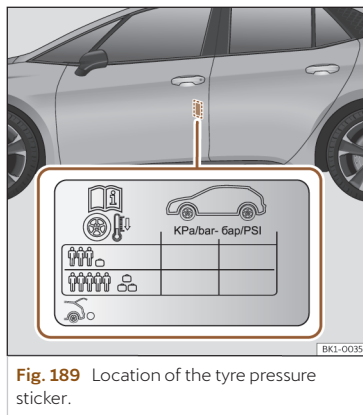

Fig. 189 Location of the tyre pressure sticker.
- Adjust tyre pressure to the load being carried by the vehicle >>> **Fig. 189**.
The values of the tyre pressure are shown on the sticker label located on the rear frame of the front left door >>> **Fig. 189.**
The tyre pressure must be adjusted according to the load the vehicle is carrying. If the vehicle is going to be fully loaded, increase the tyre pressure to the maximum load value shown on the sticker label >>> **Fig. 189.**
In the case of a minimised temporary spare wheel (125/70 R16 or 125/70 R18) inflate to a pressure of 4.2 bar as indicated on the tyre pressure label >>> **Fig. 189.**
- The driver is responsible for ensuring that all of the vehicle tyres are correctly inflated to the right pressure. The recommended tyre pressure is indicated on the label >>> **Fig. 189.**
- Tyre pressure should be that indicated on the label when the tyres are cold at all times >>> **Fig. 189.**